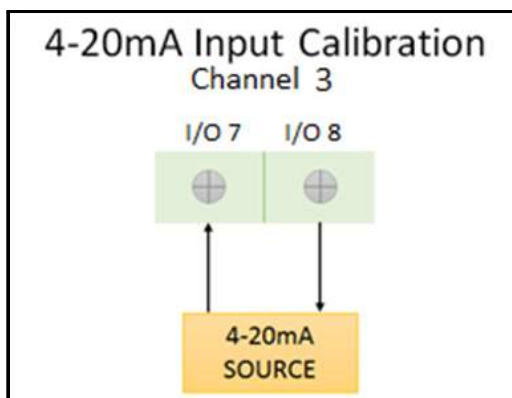

Figure 32: Option I/O Analog Input connections
1. Connect the Analog Input as in Figure 32.